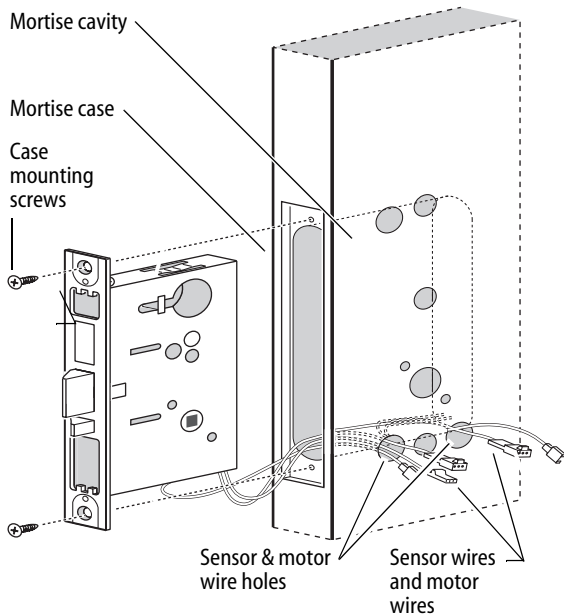

Figure 6 Installing the mortise case (inside of door)
- 2 Insert the mortise case into the mortise cavity, while feeding the sensor and motor wires into the mortise cavity and out the two sensor & motor wire holes to the inside of the door as shown in Figure 6.